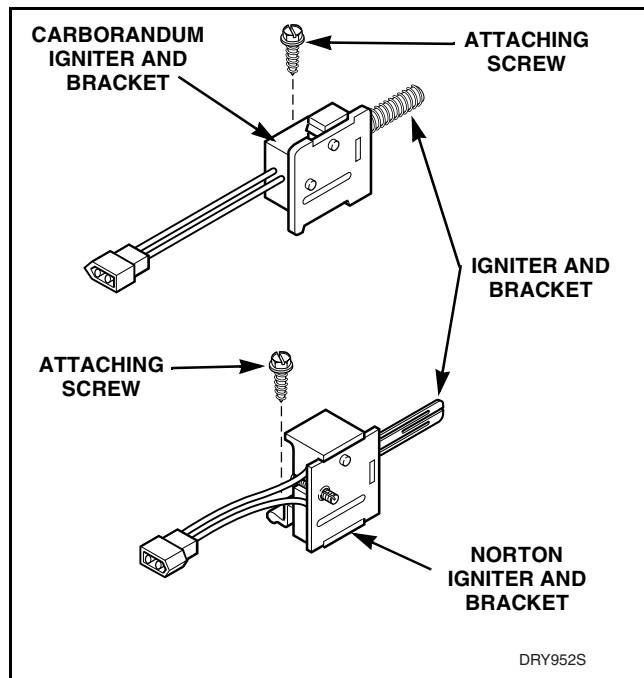
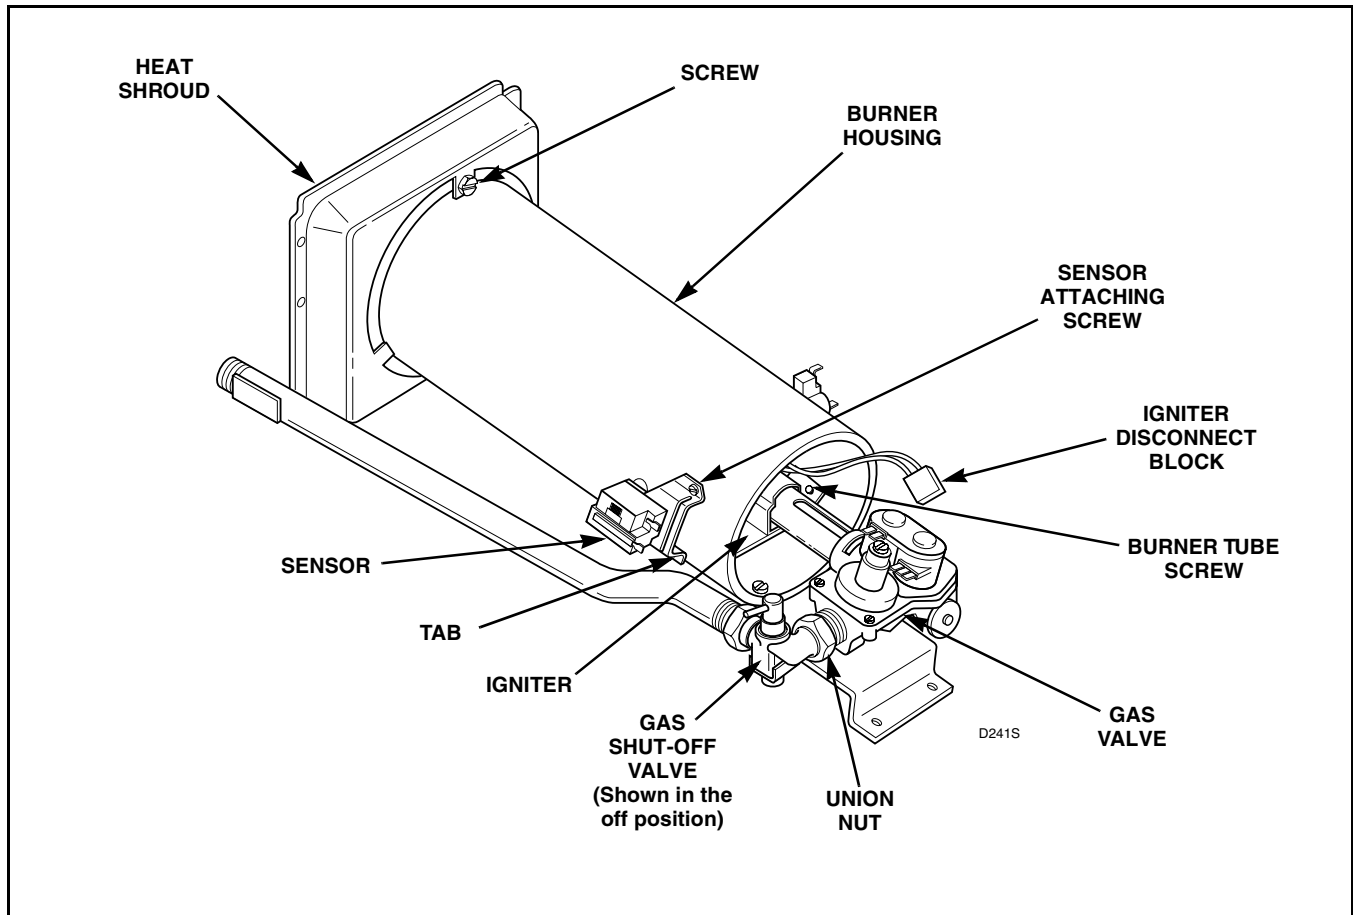

Figure 17
Figure 18
- (2) Gently move burner tube toward rear of dryer to disengage tab from slot on left side of burner housing. Refer to *Figure 18*.
- (3) Carefully rotate burner tube and igniter **counterclockwise** so tab is at 8 o'clock position.
- (4) Move air shutter end of burner tube slightly to right and **CAREFULLY** remove burner tube and igniter assembly out through front of dryer.
- (5) Remove screw holding the igniter and bracket to the burner tube and remove igniter and bracket. Refer to *Figure 17*.
- (4) Remove wires from sensor terminals. Refer to *Figure 18*.
- (5) Remove screw holding sensor to burner housing. Refer to *Figure 18*.
1. Remove wires from sensor terminals. Refer to *Figure 18*.
- f. Gently move burner tube toward rear of dryer to disengage tab from slot on left side of burner housing. Refer to *Figure 18*.
- i. Remove screw holding burner housing to heat shroud. Refer to *Figure 18*.